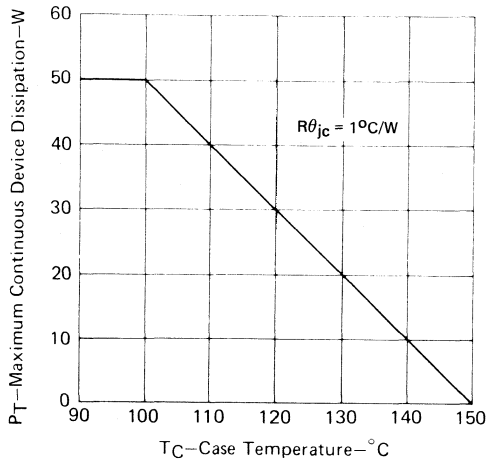

FIGURE 9
3. Derate linearly to 200°C case temperature at the rate of 0.57 W/°C or refer to Dissipation Derating Curve, Figure 9.